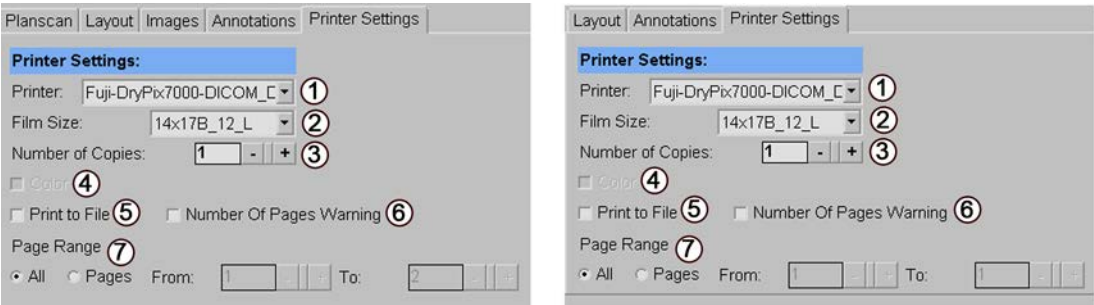

Fig. 416: Printer Settings tab: Print Series (left) versus Print Image (right). See table for more information.
| 1 |  | Print Preview (Ctrl + Shift + Q) | <p>To display the Print Preview.</p> <ul style="list-style-type: none"> This function can be used to verify the correct setup of the printout prior to printing. The function Print Settings which is available in the Print Setup(S) and Print Setup(I) windows determines the printout and the Print Preview. Example of preview and output on paper, see figure 416 on page 838. |